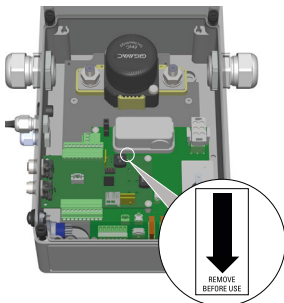

Figure 9. Location of the Coin Cell tab.
1. Connect one Li-ion battery to the BIB via the CAN connection (see figure 9).